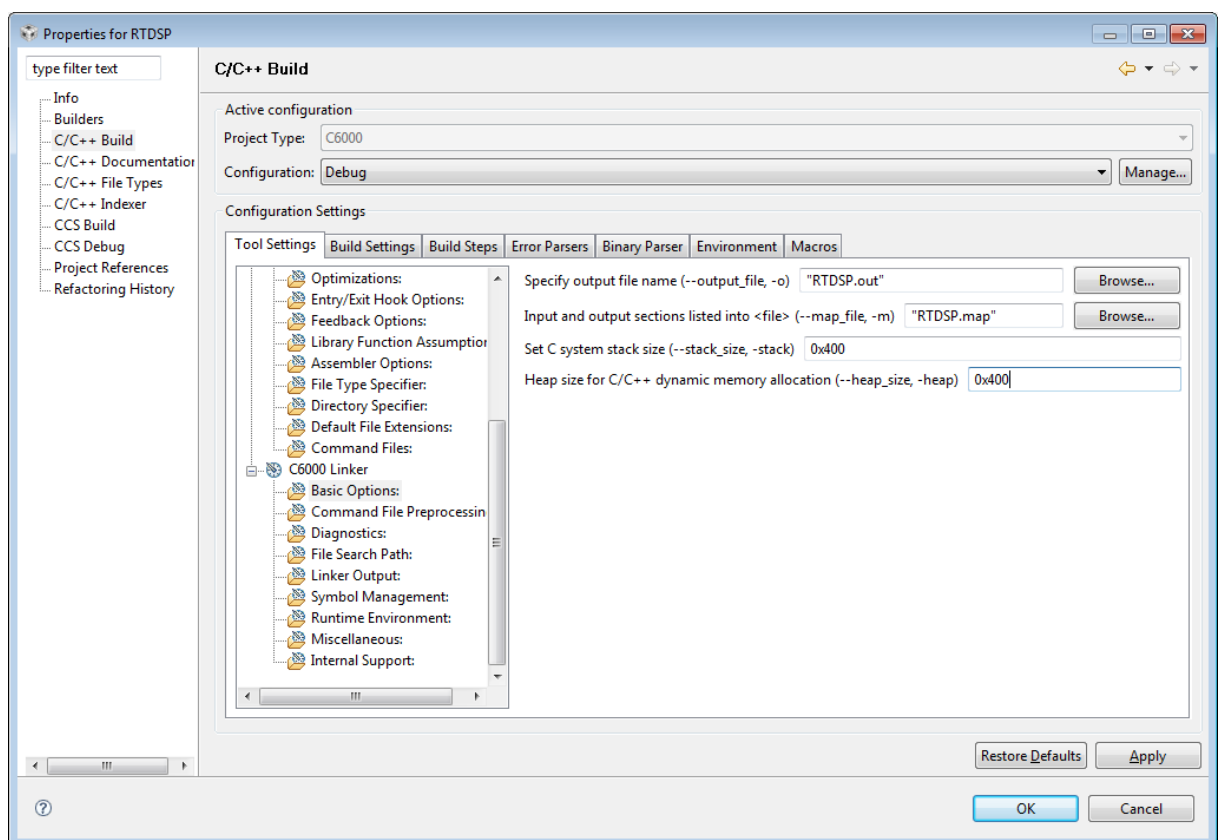

Figure 8: Build settings
- Set the **Stack** and **Heap** to **0x400** as of figure 8